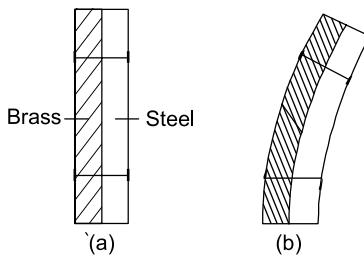

Figure 21.1
- (v) The amount of expansion varies with different materials. Figure 21.1(a) shows a bimetallic strip at room temperature (i.e. two different strips of metal riveted together – see Section 2.12, page 33). When heated, brass expands more than steel, and since the two metals are riveted together the bimetallic strip is forced into an *arc* as shown in Figure 21.1(b). Such a movement can be arranged to make or break an electric circuit and bimetallic strips are used, in particular, in thermostats (which are temperature-operated switches) used to control central heating systems, cookers, refrigerators, toasters, irons, hot-water and alarm systems.